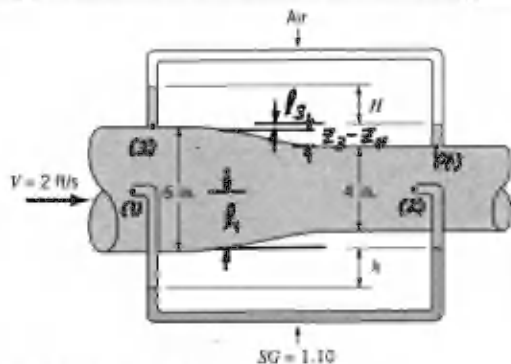

FIGURE P3.11R
3.11R (Bernoulli/continuity/Pitot tube) Two Pitot tubes and two static pressure taps are placed in the pipe contraction shown in Fig. P3.11R. The flowing fluid is water, and viscous effects are negligible. Determine the two manometer readings,  $h$  and  $H$ .